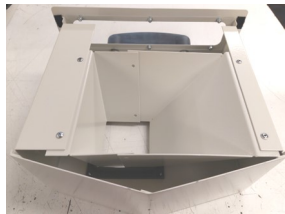

Figure 6
4. Place the larger half of the chute in the drawer (shown in figure 6), then secure it in place using the 2 screws.